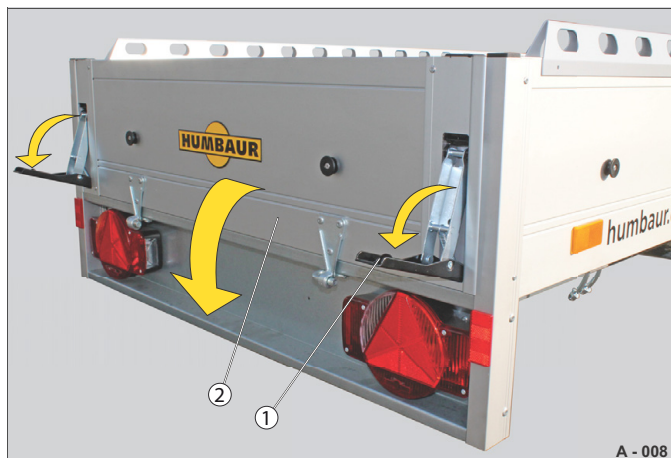

Fig. 11 Open drop side (e.g. STARTRAILER)
- Release the locks (Fig. 11 /1).
- While doing so, hold the drop side (Fig. 11 /2) with one hand.